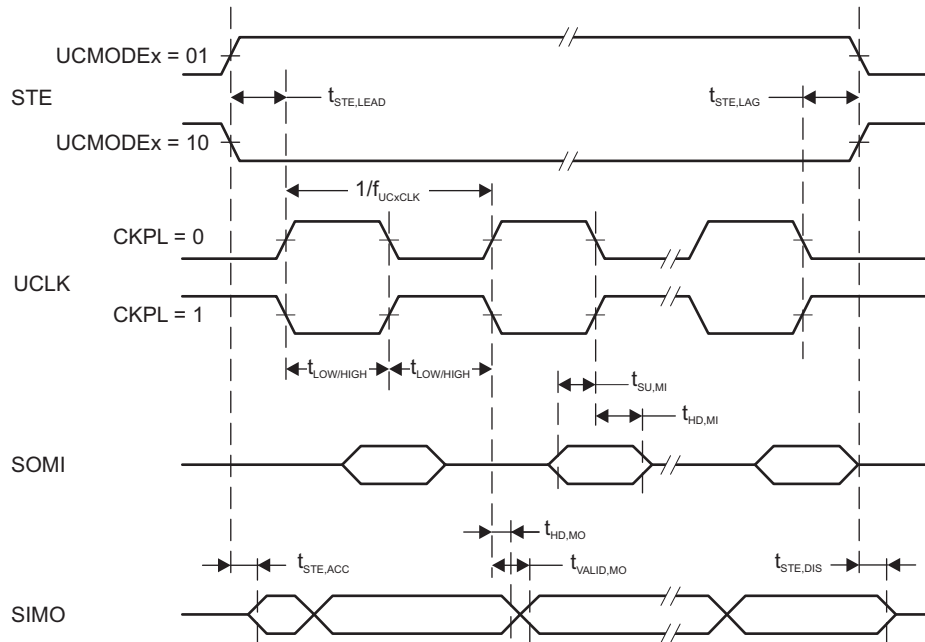
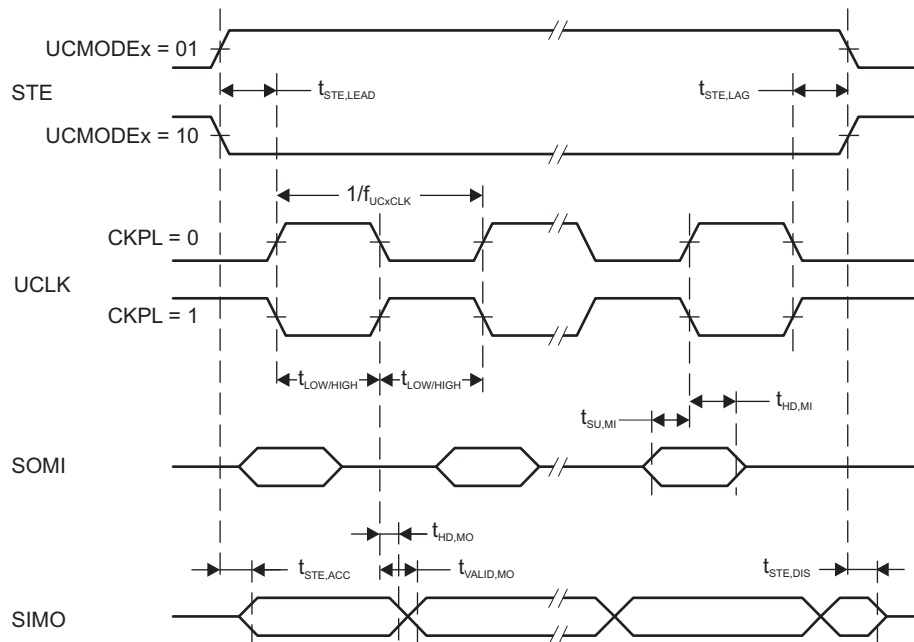

Figure 5-13. SPI Master Mode, CKPH = 0
Figure 5-14. SPI Master Mode, CKPH = 1
- (1)  $f_{UCxCLK} = 1/2t_{LO/Hi}$  with  $t_{LO/Hi} = \max(t_{VALID,MO}(eUSCI) + t_{SU,SI}(Slave), t_{SU,MI}(eUSCI) + t_{VALID,SO}(Slave))$ . For the slave parameters  $t_{SU,SI}(Slave)$  and  $t_{VALID,SO}(Slave)$ , see the SPI parameters of the attached slave.
- (2) Specifies the time to drive the next valid data to the SIMO output after the output changing UCLK clock edge. See the timing diagrams in Figure 5-13 and Figure 5-14.
- (3) Specifies how long data on the SIMO output is valid after the output changing UCLK clock edge. Negative values indicate that the data on the SIMO output can become invalid before the output changing clock edge observed on UCLK. Refer to the timing diagrams in Figure 5-13 and Figure 5-14.